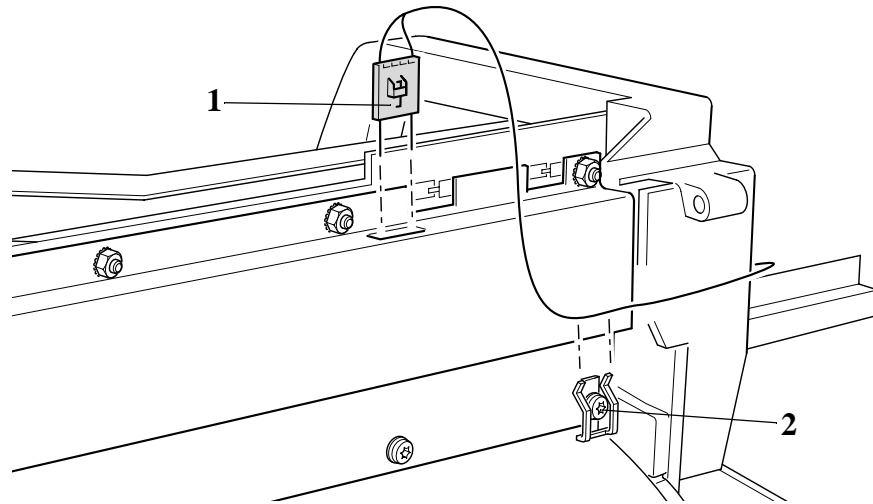

Figure 65: Leak Detector Cable
5. Remove the screw and clip (item 2) from the back of the Printer and disconnect the Ink Leak Detector Cable Connector (item 1) as shown in Figure 65. The Ink Leak Detector Cable can now be removed completely